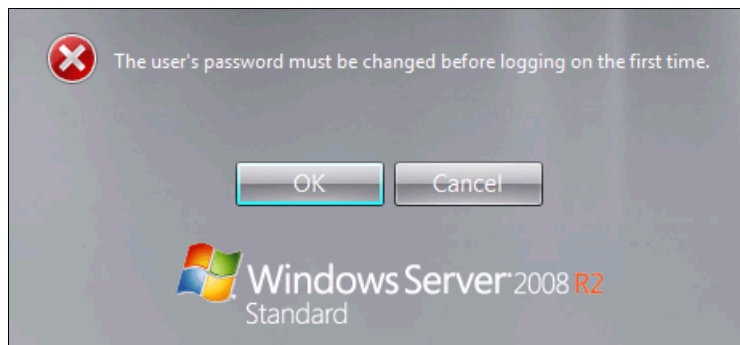

Figure 9-137 Password prompt when Windows is done installing
16. When Windows is done installing and you are prompted to enter a password (Figure 9-137), click **OK**, and then enter your password.